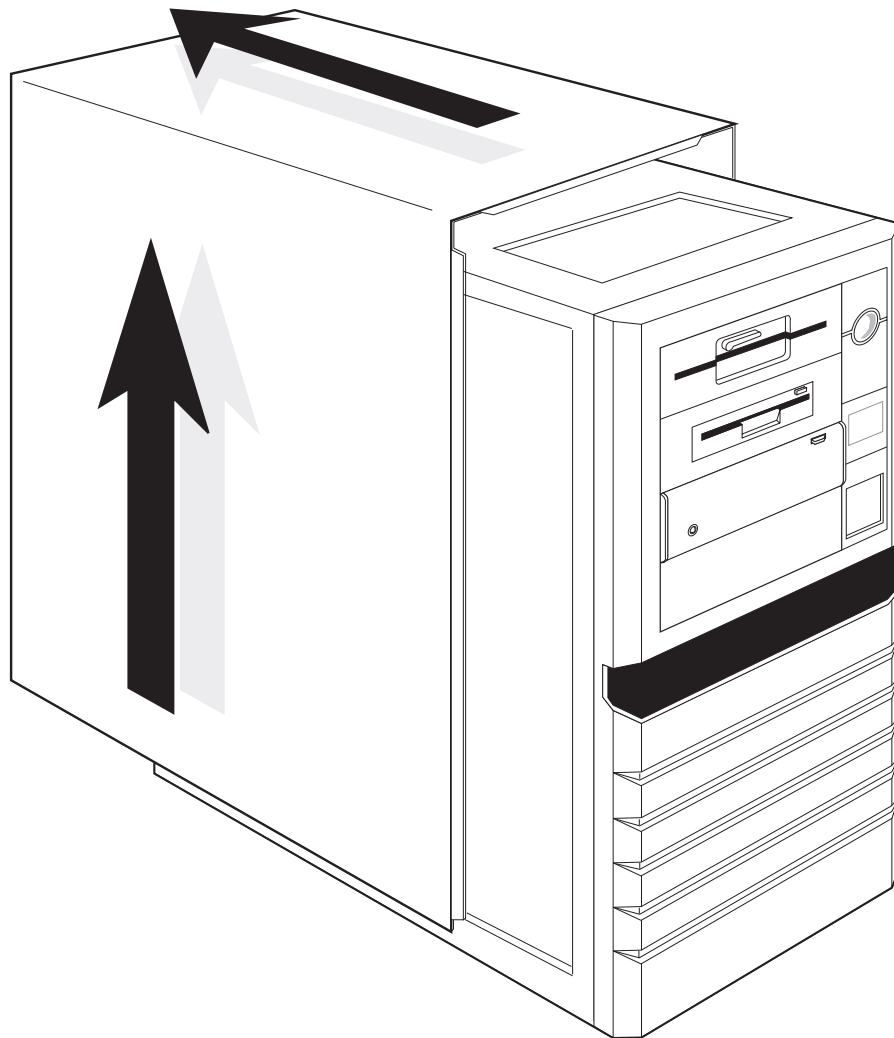

Figure 3: Deskside Chassis Cover Removal
3. Slide the top cover back and lift the rear edge up (as indicated by the arrows on Figure 3, below). Remove the cover and place it out of the way.